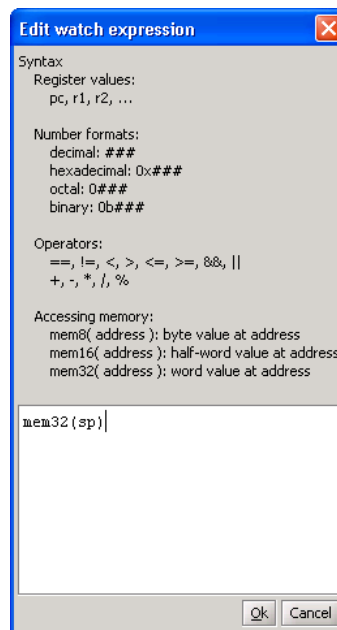

Figure 44. The *Edit Watch Expression* window.
- The *Edit Watch Expression* window will appear, as shown in Figure 44. The desired watch expression can then be entered, using the syntax indicated in the window. In the figure, the expression `mem32(sp)` is entered, which will display the value of the data word at the current stack pointer address.